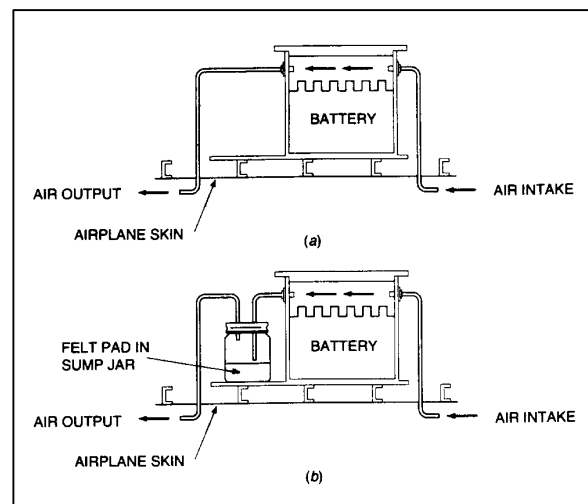

FIGURE 11-1. Battery ventilating systems.
d. Battery Sump Jars. A battery sump jar installation may be incorporated in the venting system to dispose of battery electrolyte overflow. The sump jar should be of adequate design and the proper neutralizing agent used. The sump jar must be located only on the discharge side of the battery venting system. (See figure 11-1.)